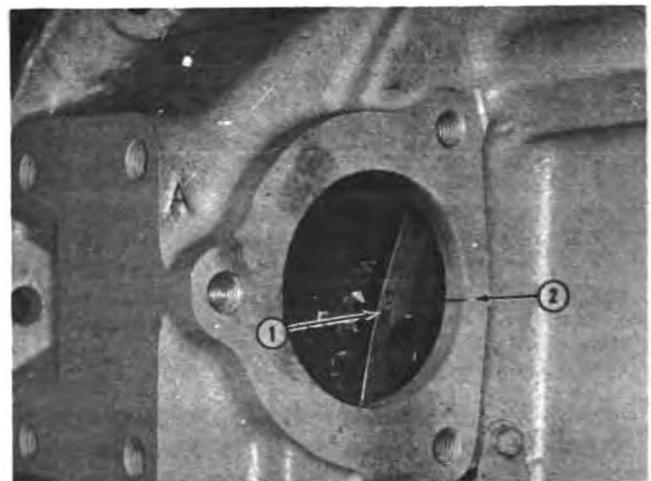

Fig. 2-60, (K21918). Valve set marks on right bank flywheel and housing — KT(A)-2300
2. When barring the engine from the right bank at the flywheel housing "A" VS timing marks on the flywheel (1, Fig. 2-60) must align with the scribe mark (2) when viewed through the opening marked "A" on the flywheel housing.